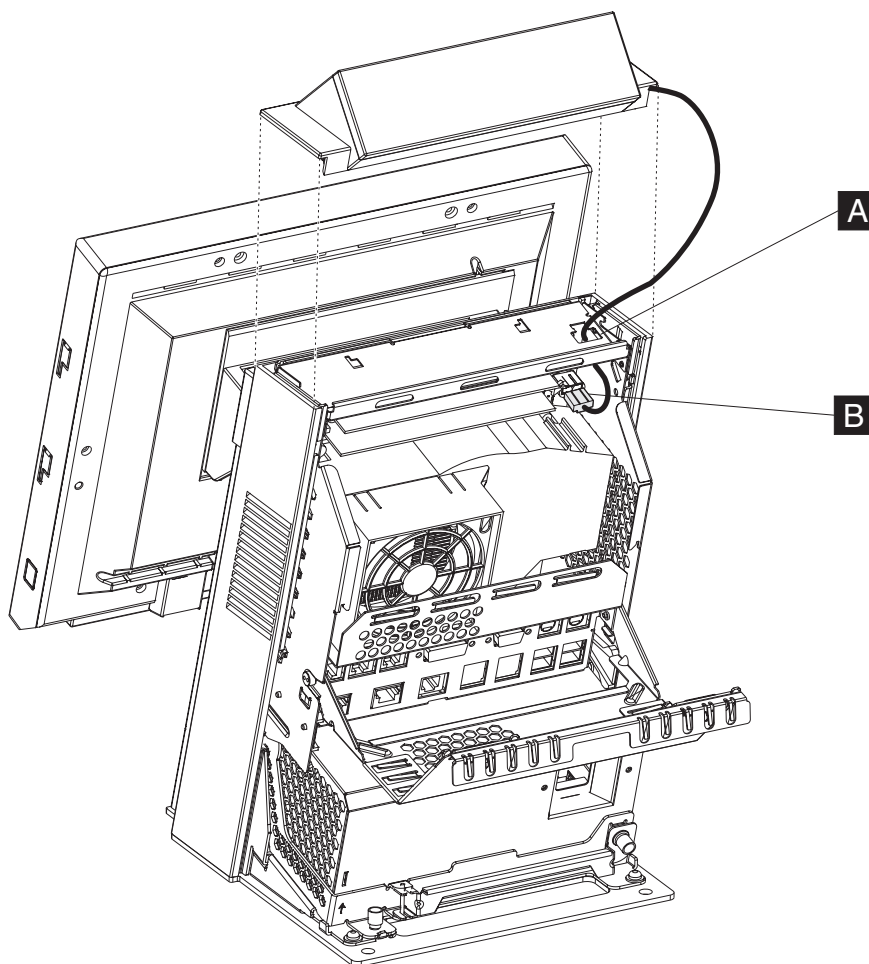

Figure 39. Removing the integrated display
6. Snap the new integrated display in place, after routing the cable through the hole (**A** in Figure 39 in the top of the unit.